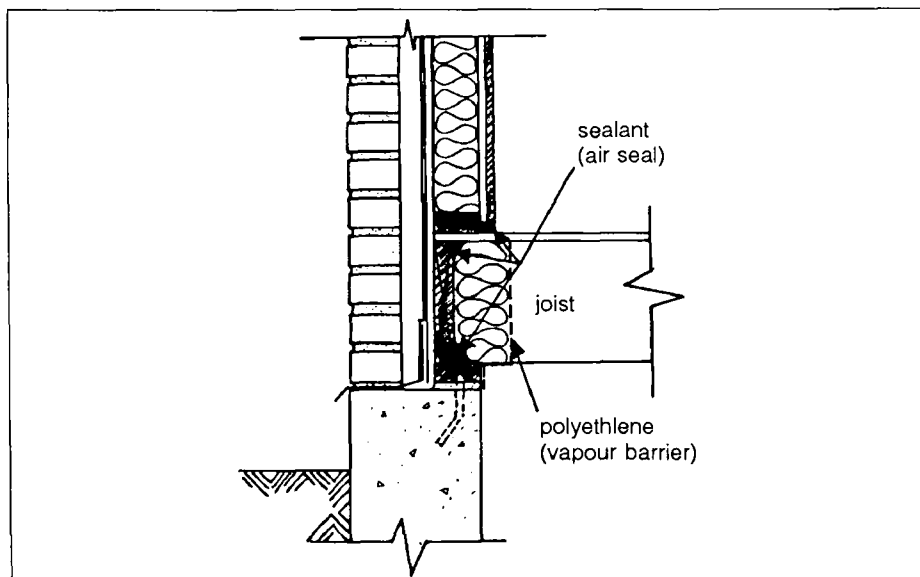

Fig. 26 . Air and vapour barriers: header/joists detail
- Provide an air barrier and a vapour barrier if the basement wall is finished or insulated, particularly in the area of the first floor joists (*fig. 26*).